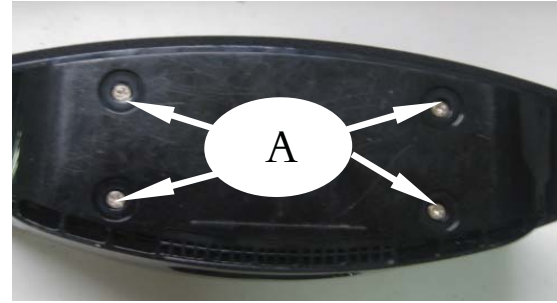
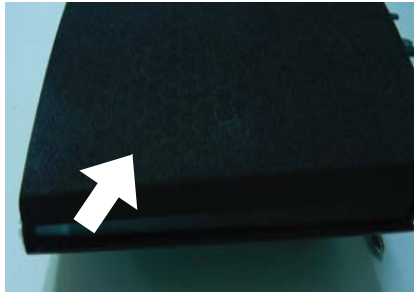

Figure2
Figure 3
- 2) Loosen 4 screws "A" as shown in figure2 & open speaker cloth as shown in figure3